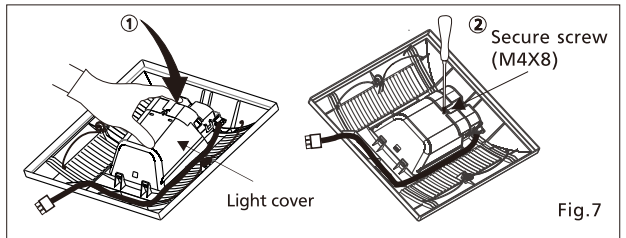

Fig.7
10. Reinstall the light cover. (Fig.7)